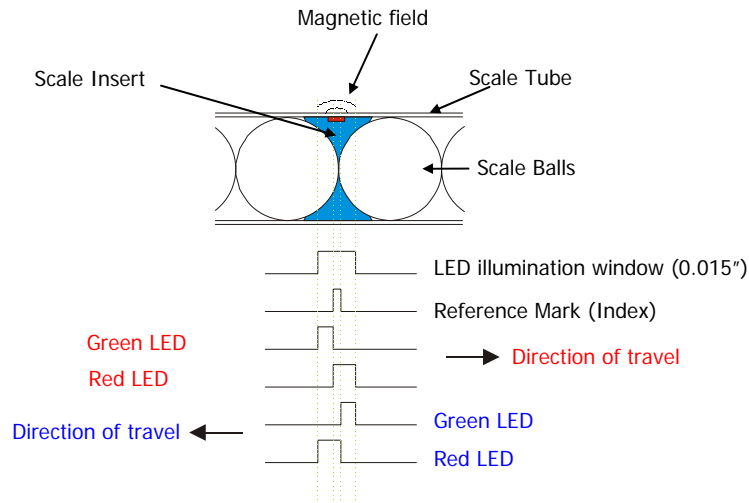

Figure 1. Operation of the head-mounted LED.
In order to facilitate installation a head mounted LED has been included. The head LED is illuminated Green when the sensor has detected the magnet insert. It then changes to Red once the internal incremental reference mark, within the window defined by the scale insert, is detected. The LED then turns off once the external magnet is no longer detected. Thus the repeatability of the reference mark is within a single resolution count. See Figure 1.
- If the LED is Green then the index position longitudinally is within approximately ± 2 mm of the current head position. In most circumstances this will be sufficient. If fine placement is required then the scale should be moved longitudinally until the LED turns Red. It is at this transition point that the index output will occur. (See Figure 1.) If the LED turns off and not to Red then move the scale in the opposite direction as you have moved away from the index position.
- As the reader-head passes over the reference marker (in either direction – see Figure 1) the LED will flash Green then Red.